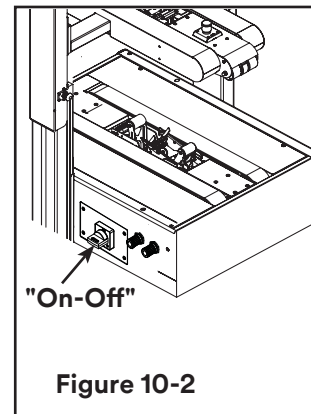

Figure 10-2
- To restart machine, rotate the emergency stop switch clockwise to release the switch latch. Restart machine by turning the On/Off switch to Off position and then to On position (Figure 10-2).